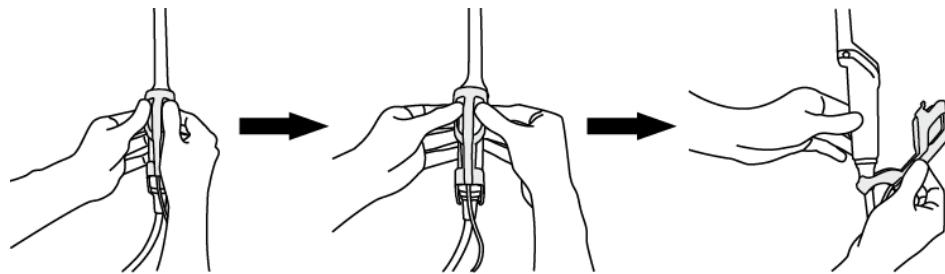

Fig.16 How to release the Magnetic sensor attachment from the probe
- 1) Detach the Magnetic sensor attachment from the probe as shown Fig.16.